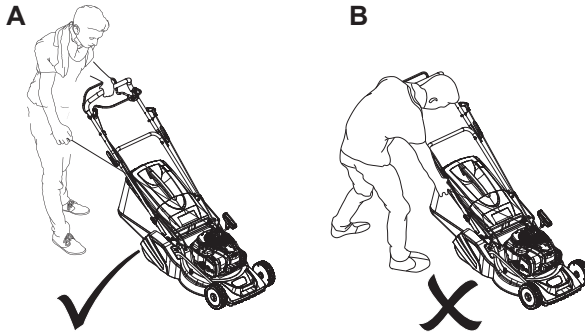

Fig. 21
Warning! The starting position should be as described in the instruction manual. Fig. 21 A illustrates the defined starting position. The operator should start the engine behind the upper handle bar (1). Do not start the engine while standing on the side of the product as shown on Fig. 21 B.